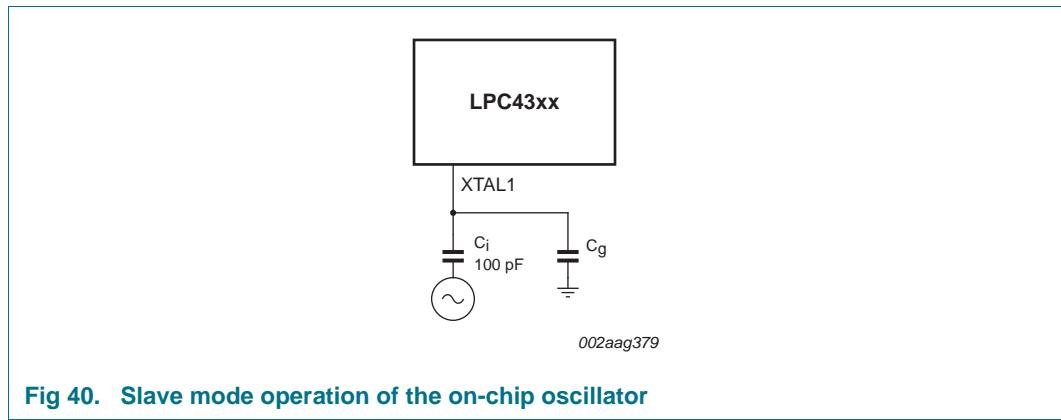

Fig 40. Slave mode operation of the on-chip oscillator
- In slave mode the input clock signal should be coupled by means of a capacitor of 100 pF (C_c in Figure 40), with an amplitude of at least 200 mV (rms). The XTAL2 pin in this configuration can be left unconnected.